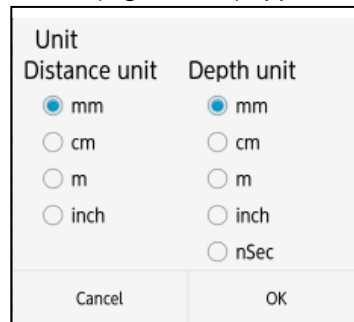

Figure 4-35 Unit setup screen
- (1) Tap Device setting: **[Unit]** menu. Then the unit setup screen (Figure 4-35) appears. The mark ● shows the current setting for the distance and depth scales, respectively.
- (2) Tap a desired setting, and confirm the mark ● is moved to the selected setting.
- (3) Tap **[OK]** to return to the parameter setup screen. To cancel the setting change, tap **[Cancel]**, then the screen returns to the parameter setup screen without setting change.
- (4) Tap **[Return to the main window]** to return to the main screen.